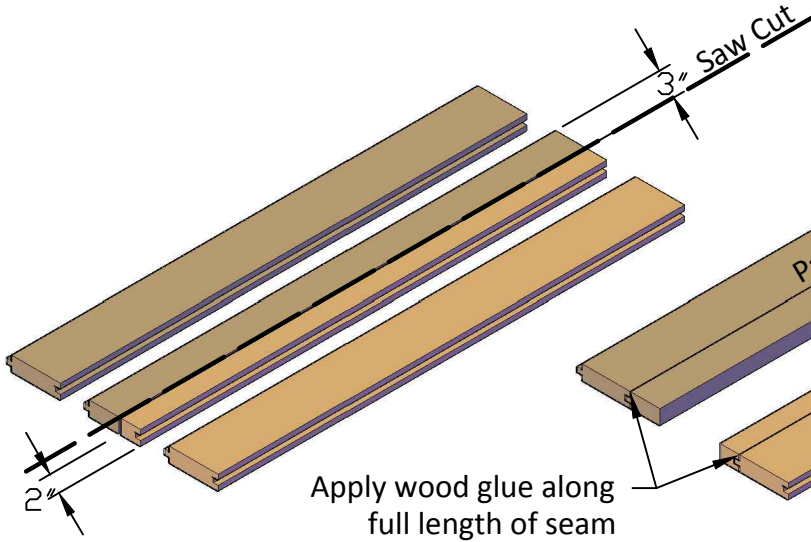

Figure 1A
- Rip four Tongue and Groove (T&G) boards lengthwise, dividing each board into a 2-inch and a 3-inch wide section (Fig. 1A, Sheet 8).